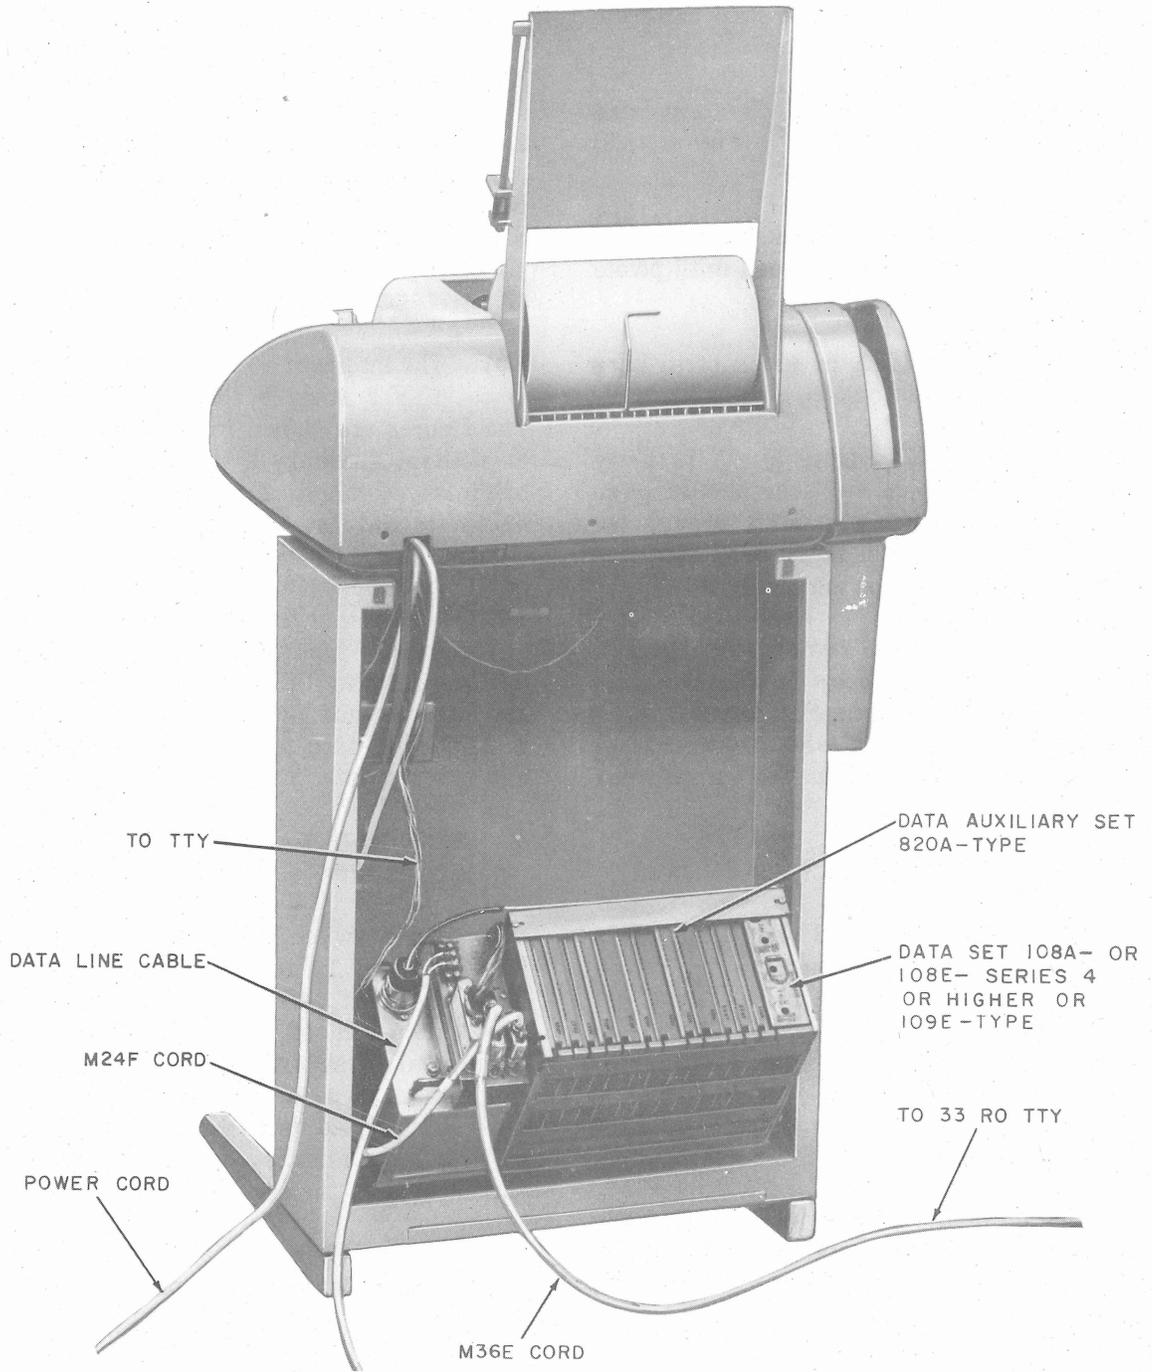

Fig. 4—33 ASR TTY—Rear View With Controller in Maintenance Position
- (2) With both hands placed on the rear of the data auxiliary set, gently pull the top towards the rear of the station as shown in Fig. 4.